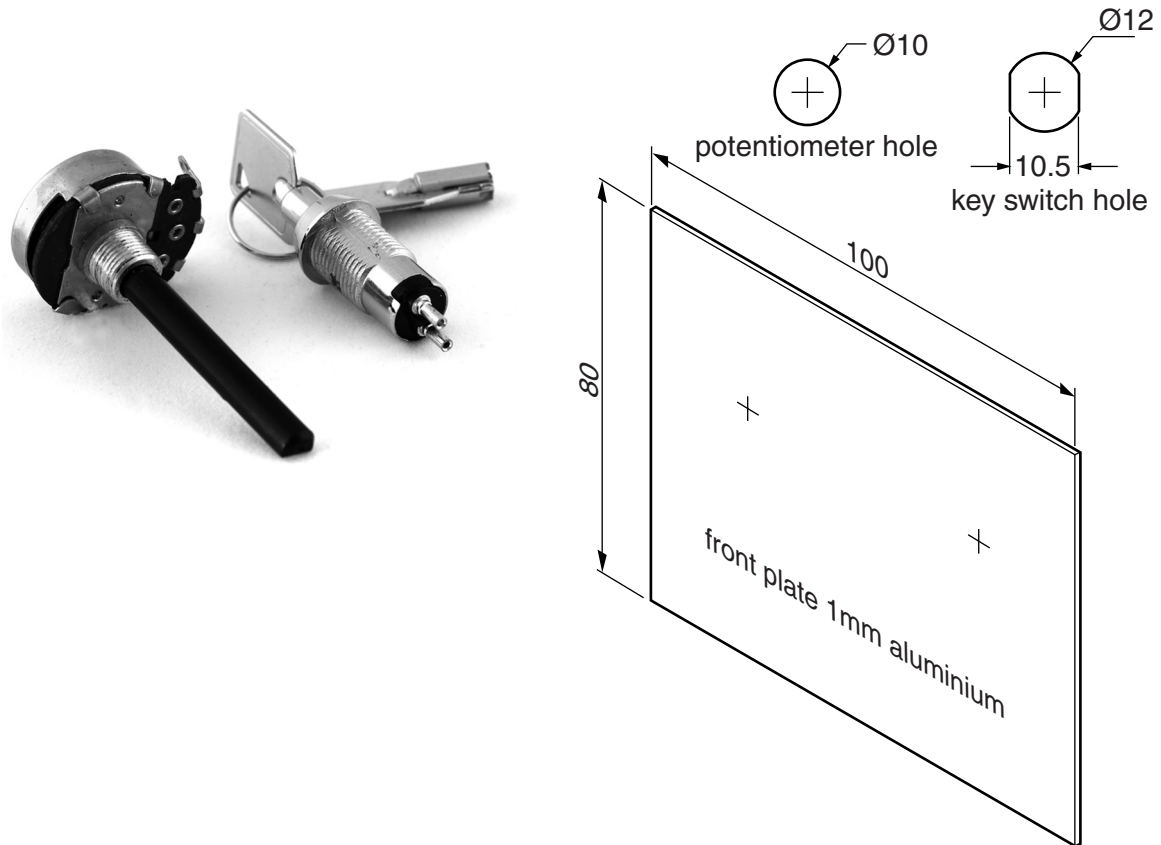

Fig. 2
- 17 (a) External components often require fitting through holes cut into a casing. Fig. 2 shows a key switch and a potentiometer ready to be fitted to the front plate of a prototype case. The dimensions of the holes required are also shown.